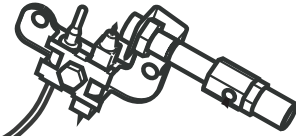

Figure 25 - Pilot
- With control knob pressed in, push down and release ignitor button. This will light pilot (Figure 25) The pilot is attached to the rear of the front of burner. If needed, keep pressing ignitor button until pilot lights. *Note: If pilot does not stay lit, refer to Troubleshooting, pages 28 though 31. Also contact a qualified service technician or gas supplier for repairs. Until repairs are made, light pilot with match.*